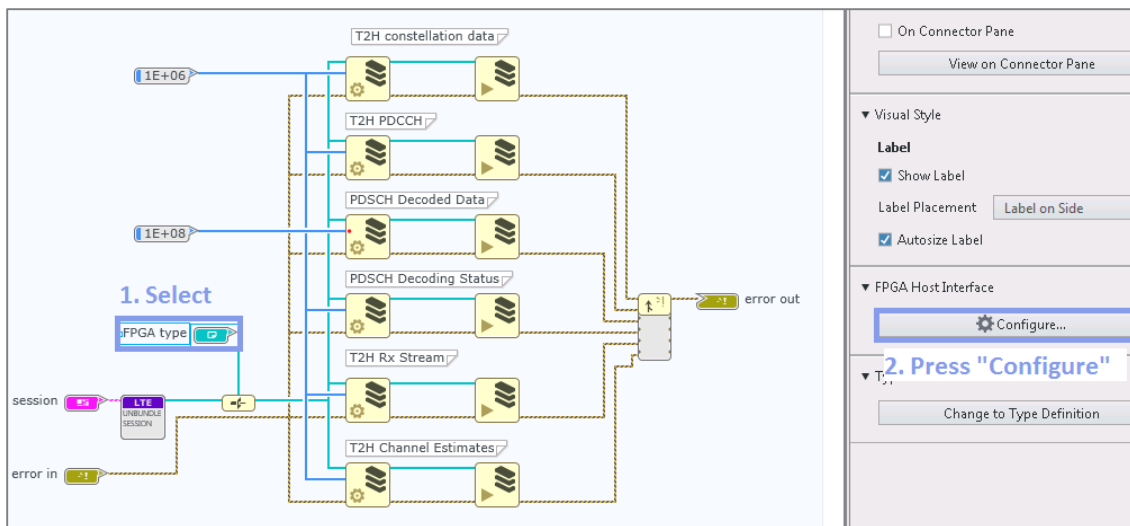

Figure 41 – “LTE DL RX FIFO Initialization.gvi” - Reconfigure FPGA Type
3. Select the “FPGA type” constant and click **Configure** in the right-hand rail as shown in Figure 41.